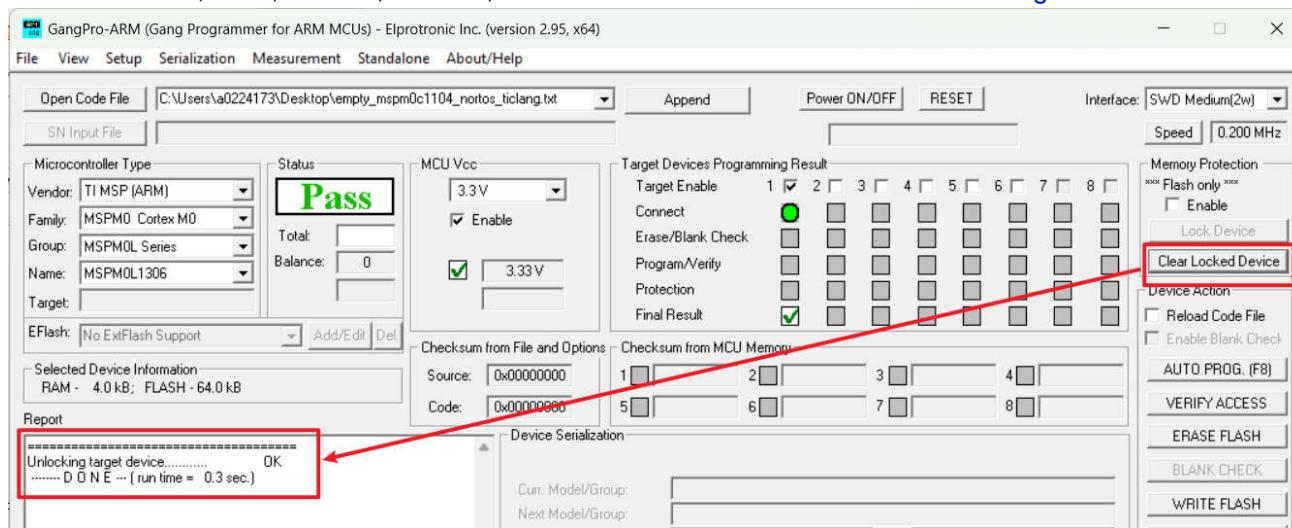

Figure 5-12. Factory Reset with C-GANG
8. If the device is locked, C-GANG also support to unlock the device through doing **factory reset**. First, please connect VCC, GND, SWDIO, SWCLK, RST. Then flow the instruction as shown in Figure 5-12.